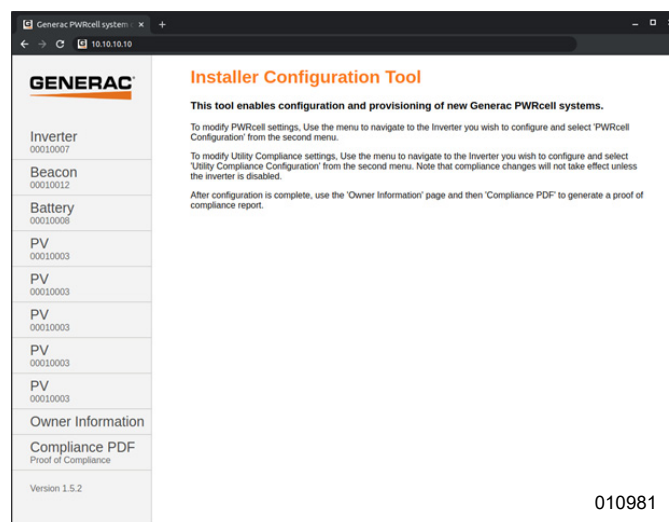

Figure 6-28. Installer Configuration Tool
5. See Figure 6-28. Open a web browser on a smartphone or laptop and enter 10.10.10.10 for the browser URL. The installer tool will appear in the browser.